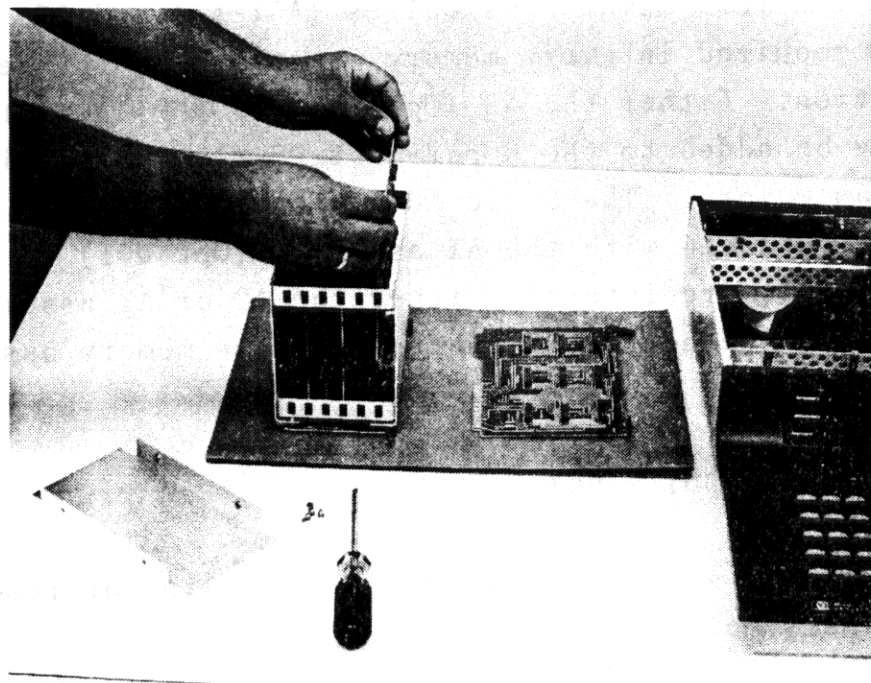

Figure 2-9. Exchanging PC Boards in the Memory Assembly
3. Place the new board and carton as shown in Figure 2-9.
4. Remove the four screws which secure the memory module. Remove the module and place it on the foil carton as shown in Figure 2-9.